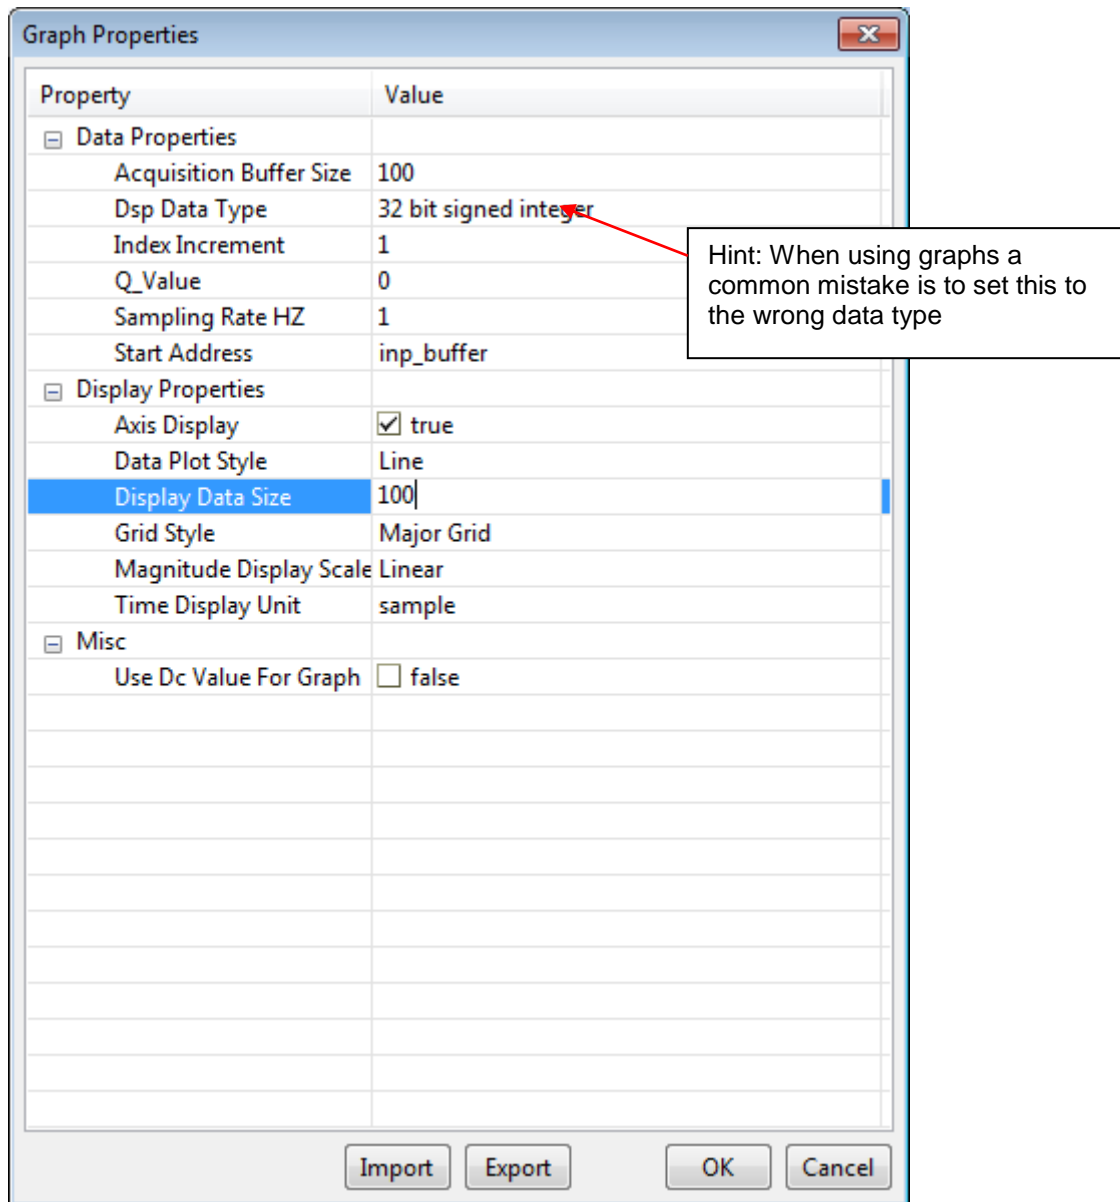

Figure 20: Graph properties dialog
- In the Graph Property Dialog, change the **Start Address**, **Acquisition Buffer Size**, **Display Data Size**, **DSP Data Type** and **Display Data Size** properties to the values shown in figure 20.